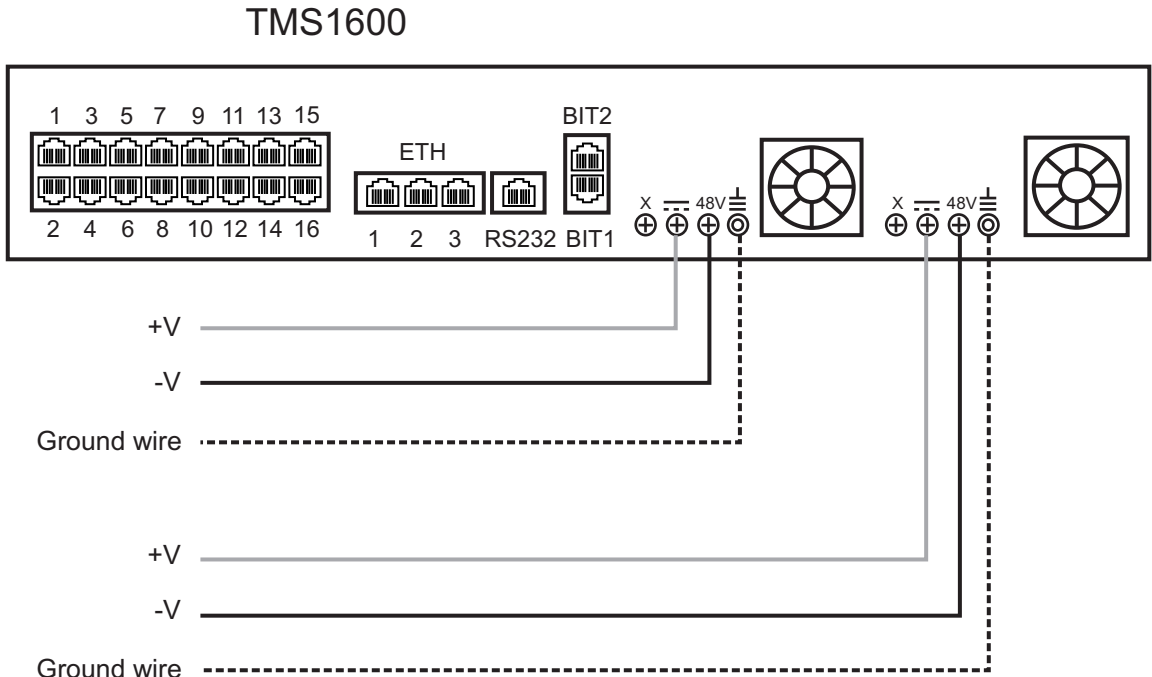

Figure 2.17 TMS1600 DC wiring diagram
1. Connect a ground wire to the ground lug located at the rear of the TMP6401, as shown in figure 2.17 on page 29.
- 1. Connect a ground wire to the ground lug located at the rear of the TMS1600, as shown in figure 2.17 on page 29.